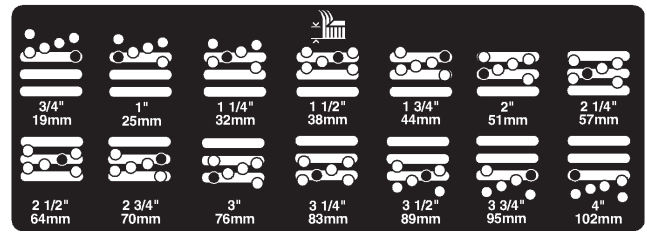

Figure 3
5. Move chamber to desired height-of-cut and install spacer into designated height-of-cut hole and slot (Fig. 3).